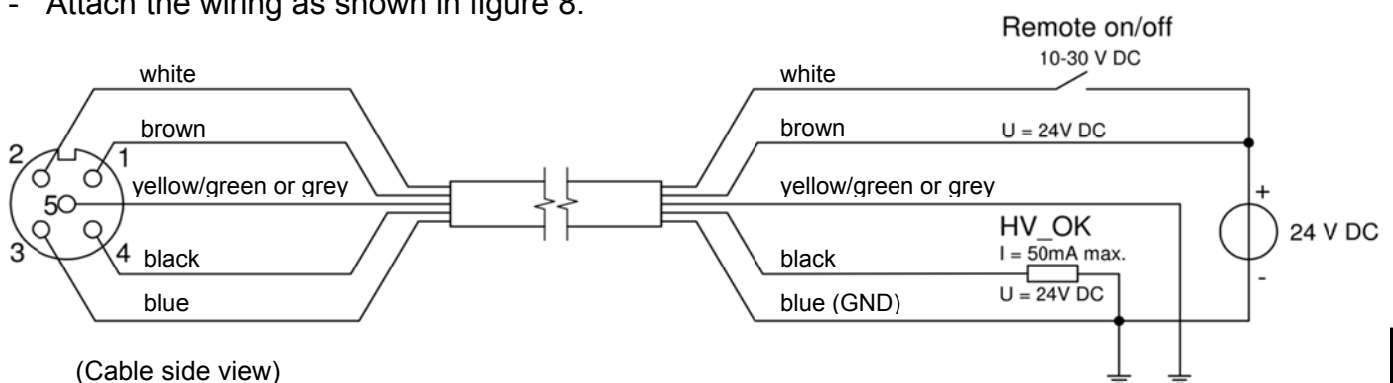

Figure 8: Wiring of the bar
- Attach the wiring as shown in figure 8.